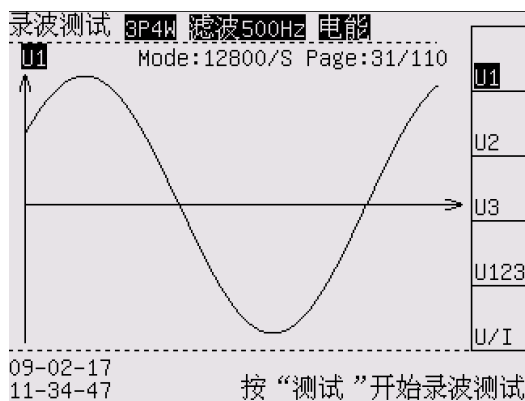

Figure 11-1 Record test
3.1 Record test display refers to screen. (Figure 11-1) Including:
3.2 Record test screen (Figure 11-1)